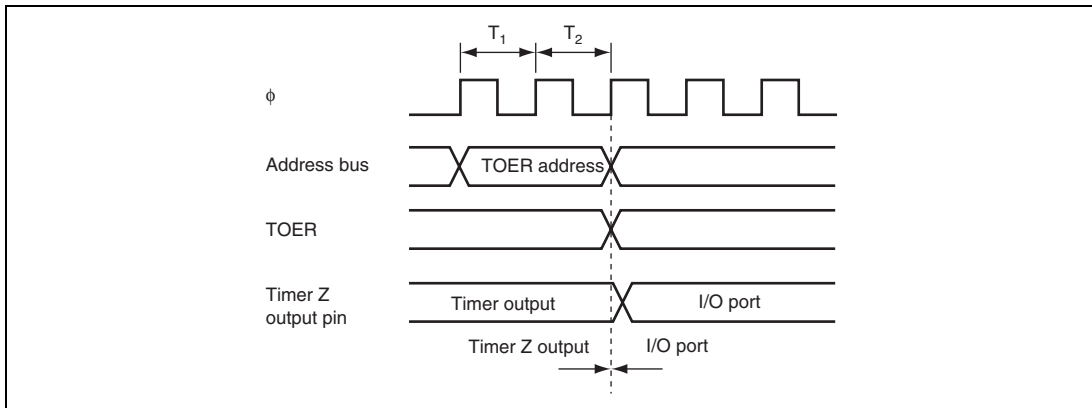

Figure 14.44 Example of Output Disable Timing of Timer Z by Writing to TOER
1. Output Disable/Enable Timing of Timer Z by TOER: Setting the master enable bit in TOER to 1 disables the output of timer Z. By setting the PCR and PDR of the corresponding I/O port beforehand, any value can be output. Figure 14.44 shows the timing to enable or disable the output of timer Z by TOER.